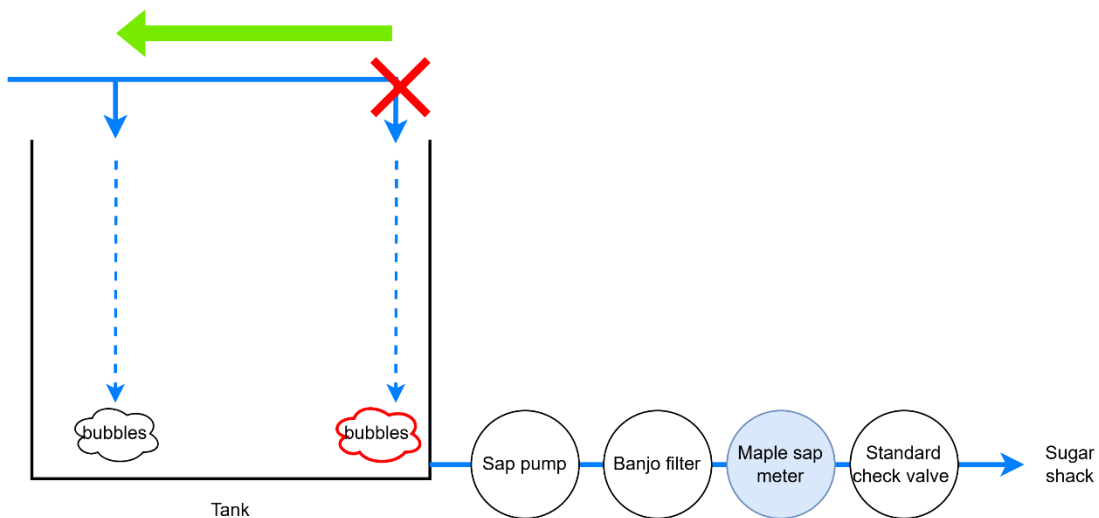

Figure 135: Move the maple sap inlet to prevent bubble formation at the pump suction.
- Relocate the maple sap inlet to prevent it from flowing into the suction side of the tank's sap pump at the tank outlet (see Figure 135 below).